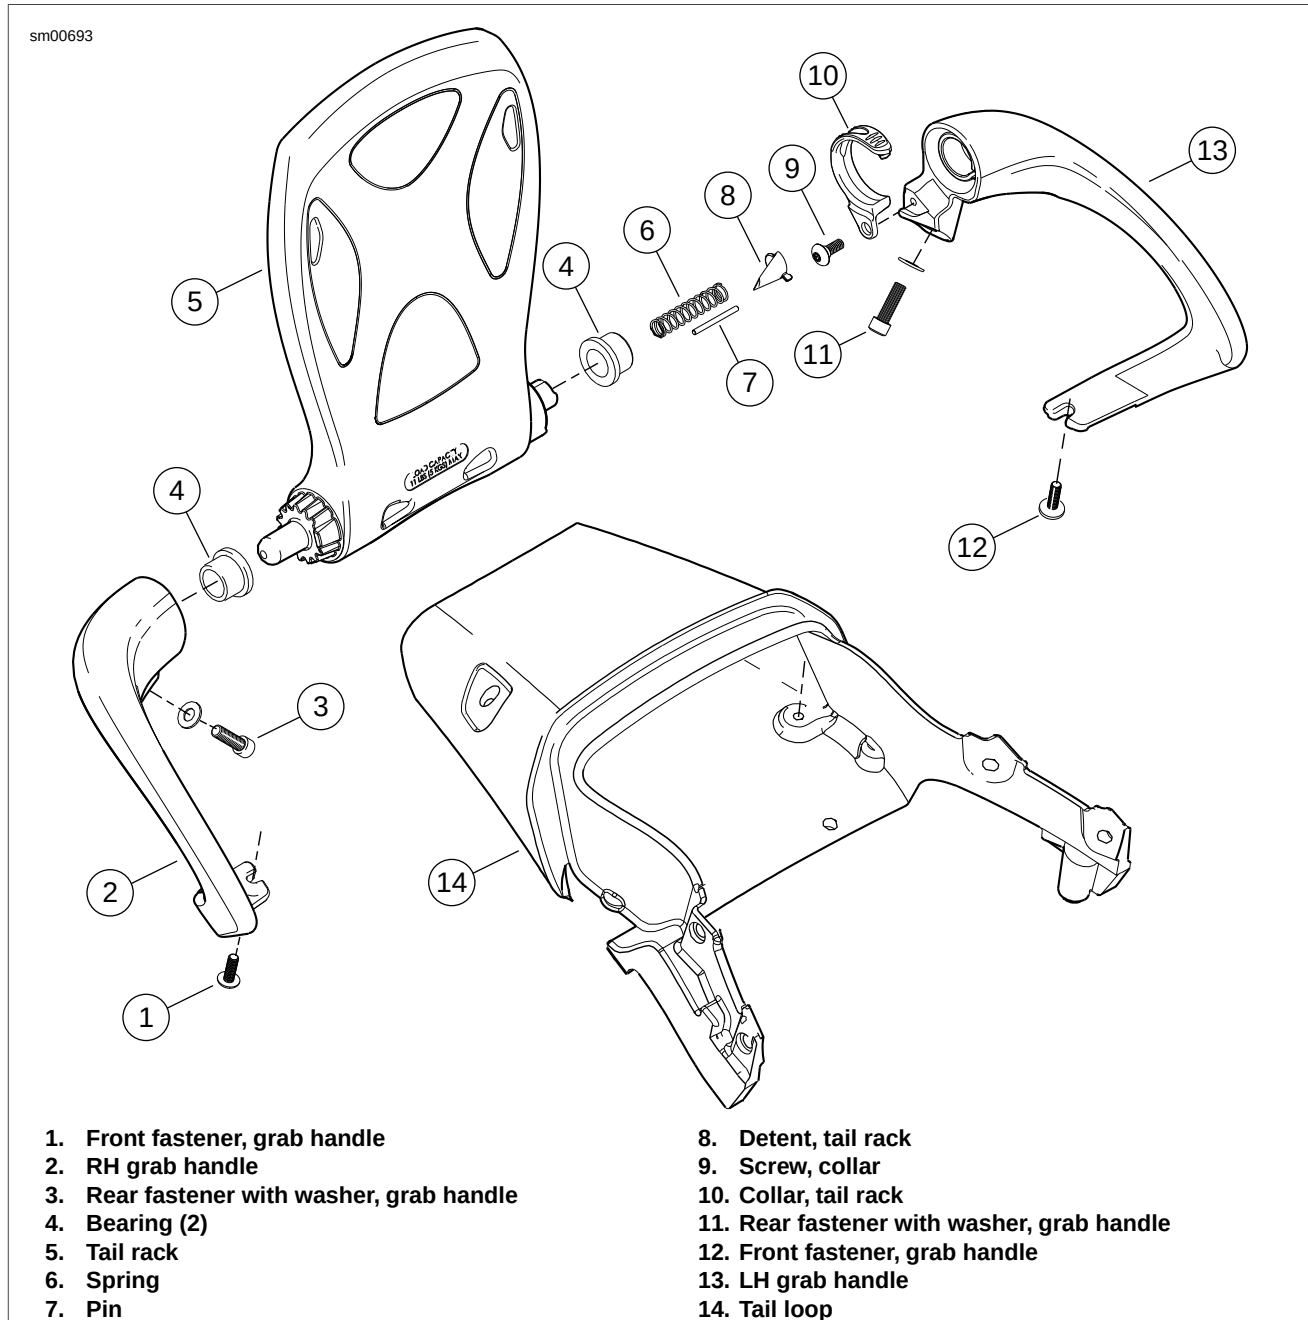

Figure 2-207. Triple Tail, Passenger Backrest and Luggage Rack: Ulysses
- See Figure 2-207. To access fasteners (3, 11), remove the plastic wire cover under the license plate light. Remove the two screws and the two nuts to remove the plastic cover.
- Remove the right hand rear fastener (3).
- Loosen but do not remove the right hand front fastener (1).
- Hold the triple tail rack (5) in place and remove the right hand grab handle (2).
- See Figure 2-207. Remove the fastener (9) and the plastic collar (10) from the left hand grab handle (13).
- To remove the bearings (4) from the grab handles, insert a 3/4 in. blind bearing collet and extract.
- Remove the pin (7) and detent (8).
1. See Figure 2-207. Apply LOCTITE 271 (red) to LH and RH grab handle fasteners (1, 3, 11, 12).
2. Install the LH grab handle (13) onto the front fastener and install the rear fastener. Do not tighten.
3. Slide the spring (6) into the LH grab handle (13).
5. Install the plastic collar (10) and tighten the fastener to 36-48 **in-lbs** (4.0-5.4 Nm).
6. Holding the rack, fit the RH grab handle (2) onto the front fastener and install the rear fastener. Do not tighten.